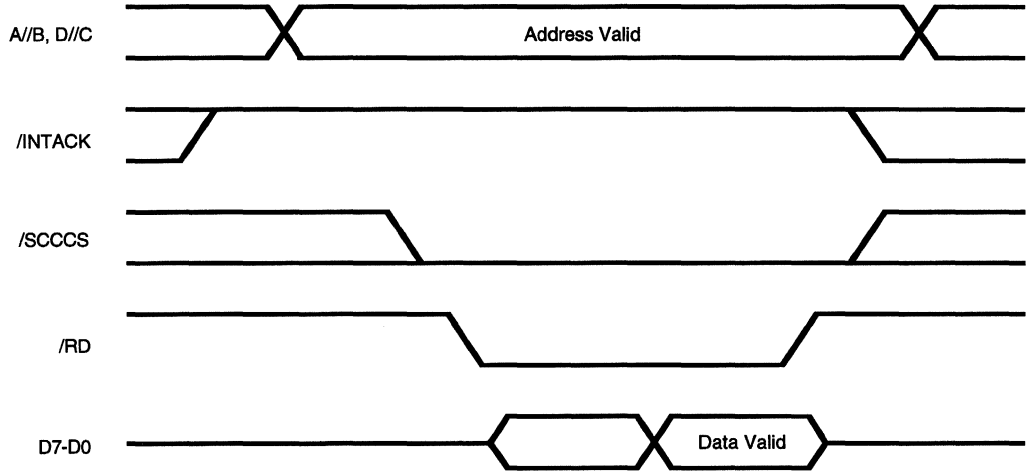

Figure 12. Read Cycle Timing
**Read Cycle Timing.** Figure 12 illustrates Read cycle timing. Addresses on  $A//B$  and  $D//C$  and the status on  $/INTACK$  must remain stable throughout the cycle. If  $/SCCCS$  falls after  $/RD$  falls or if it rises before  $/RD$  rises, the effective  $/RD$  is shortened.